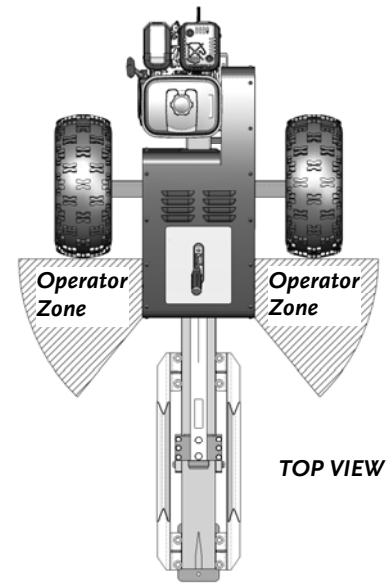

Figure 10
- When operating the Log Splitter, make sure you are standing in the safe operating area (OPERATOR ZONE) as shown in figure 10. You must stay in the safe operating area at all times when the ram is in motion (whether extending or retracting). Never place any part of your body into a position that causes an unsafe operating condition.